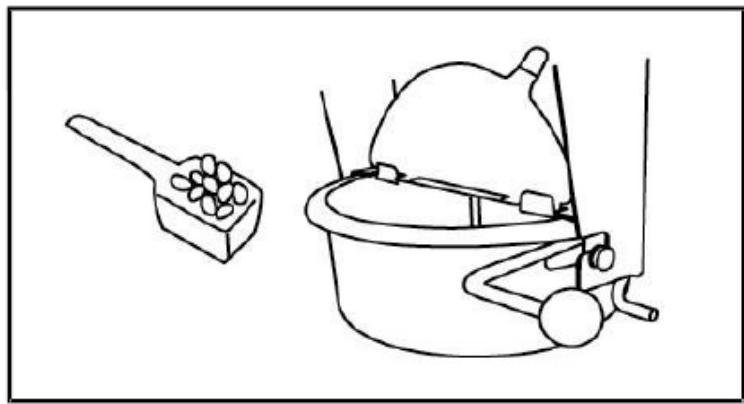

Fig. 2
6. Next pour popcorn and seasoning from Gourmet Tri-Pak pouch into pre-heated oil. (Fig. 2) If using bulk kernels, measure the amount of corn by using the measuring scoop provided. Use one scoop per batch. Open the lid and add the popcorn. **Caution: Lid is hot; we recommend wearing oven mitts or potholders. Close lid.**